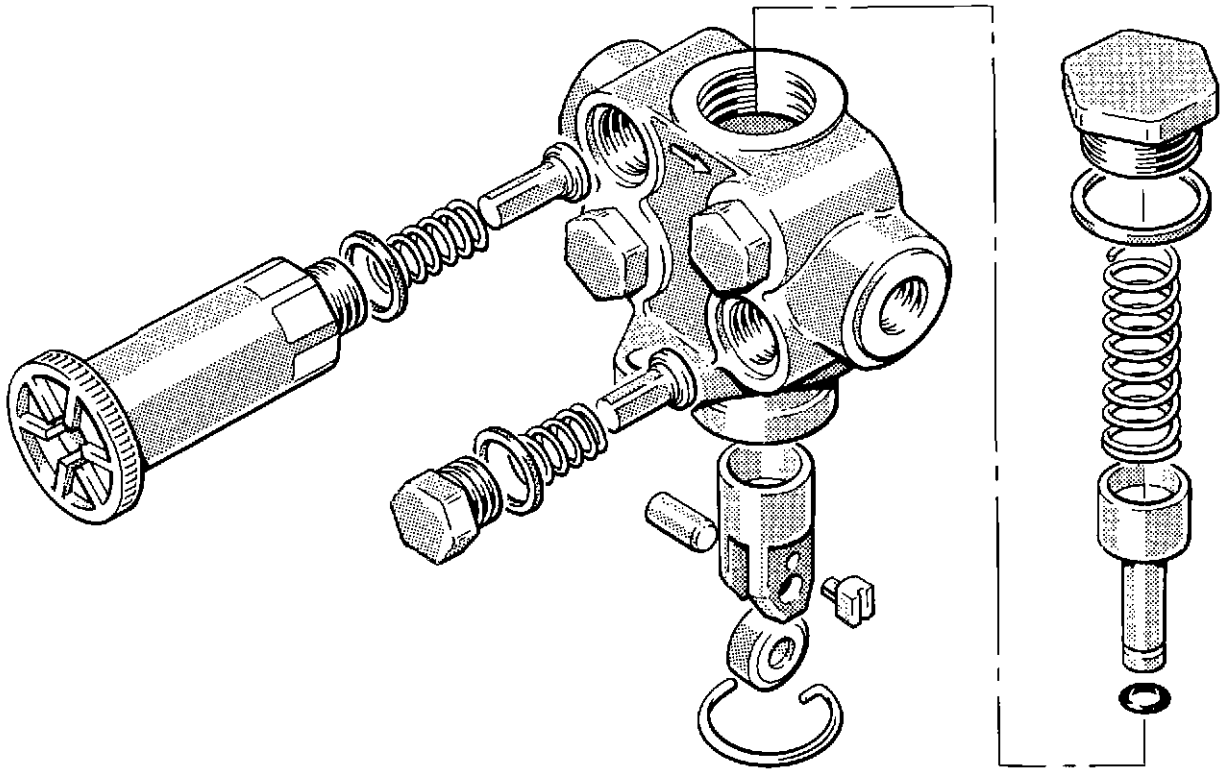

Fig 2 Fuel feed pump
1. Before removing the feed pump from its mounting, slacken each of the blanking plugs over the three valves, the priming pump body and the large cap plug over the pump plunger (fig. 2). Disconnect the fuel pipes, if applicable, and remove the feed pump securing bolts. Lift the pump clear of its mounting.